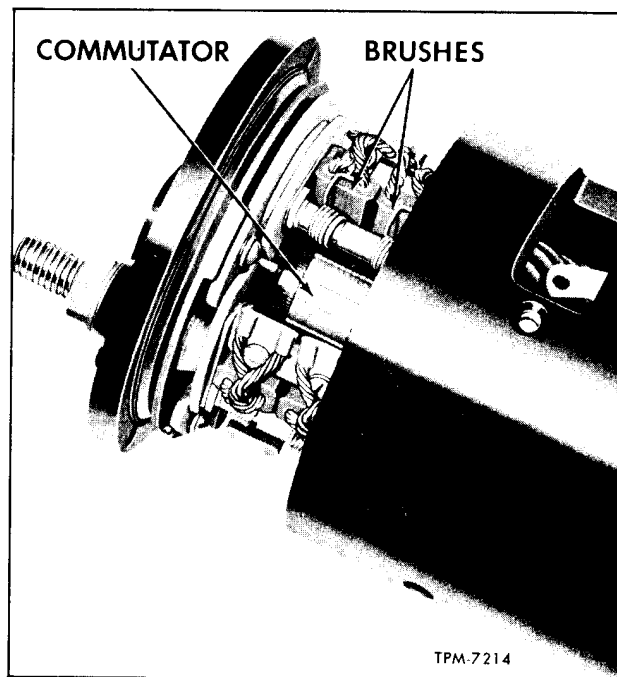

Figure 6—Installing Commutator End Frame
6. Place thrust washer over commutator end of armature shaft. Pull armature out of field frame until part of the commutator extends beyond the field frame. Place new O-ring in groove around commutator end frame. With end frame completely assembled, place brushes over commutator as shown in figure 6, then push the armature into the field frame and position end frame against field frame with marks made prior to disassembly aligned. Attach end frame to field frame with four cap screws and lock washers; tighten firmly.